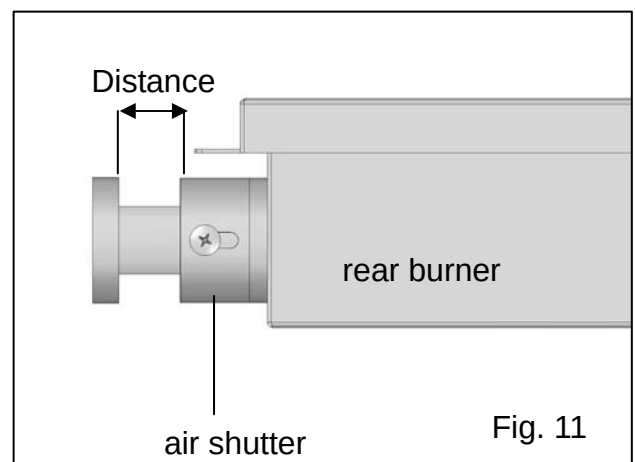

Fig. 11
4. Loosen the air shutter of the rear burner and adjust the distance between air shutter and rear burner. In LPG model, the air shutter is at its rightmost position, and the distance is about 0.67 inch; and in NG model, the air shutter should be at its leftmost position, and the distance is about 0.4 inch. Please use a screwdriver to adjust the distance. After adjustment, tighten the screw. (Fig. 11)